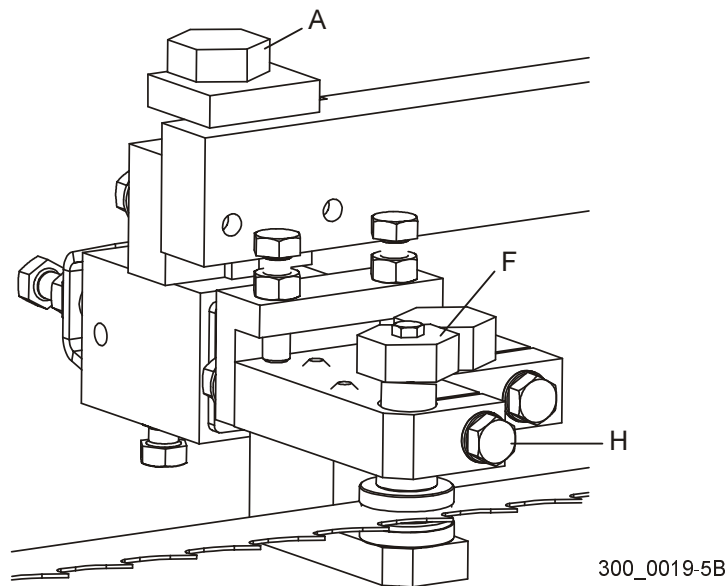

FIG. 7-35
See Figure 7-35. Use bolt (A) to adjust each blade guide assembly down, then back up so there is a slight gap between the bottom guide disks and the blade. Loosen clamp bolt (H) and turn bolt (F) clockwise to adjust the top disk down until the blade is firmly clamped between the guide disks.